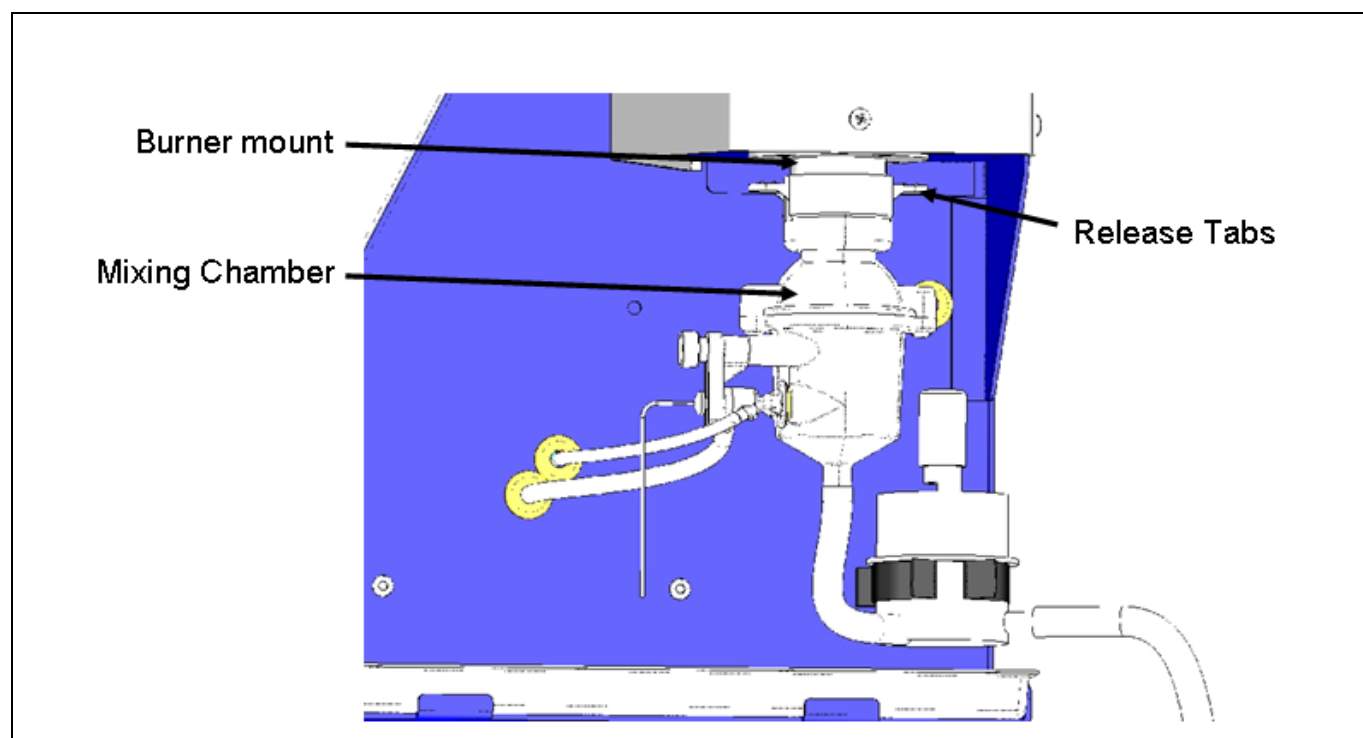

Figure 7.2
- Undo the large Retaining Nut and drop the Mixing Chamber/Burner assembly down and away from the instrument. See Figure 7.2.